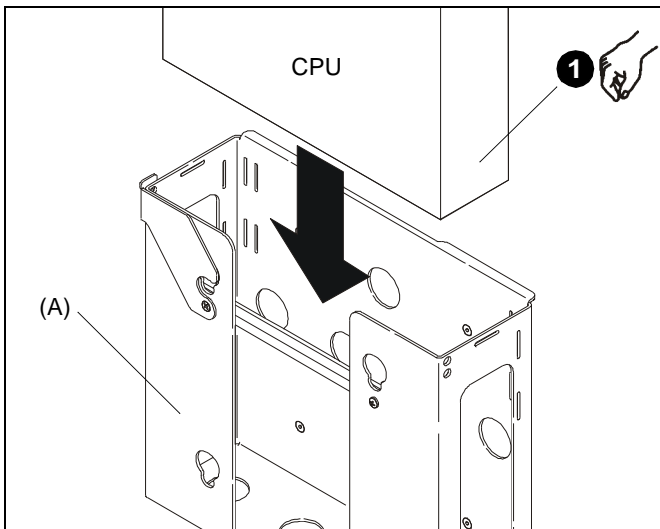

Figure 2
1. Place CPU into CPU adapter (A) making certain connections on CPU are oriented with cable access opening in sides of CPU adapter. (See Figure 2)